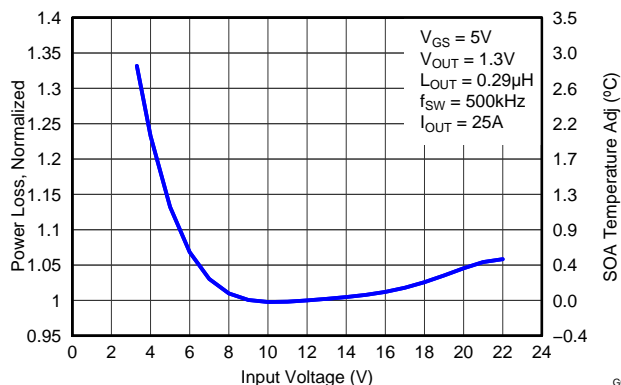

Figure 6. Normalized Power Loss vs Input Voltage
- Normalized Power Loss for input voltage \approx 1.03 (Figure 6)
- SOA adjustment for input voltage \approx 0.3°C (Figure 6)